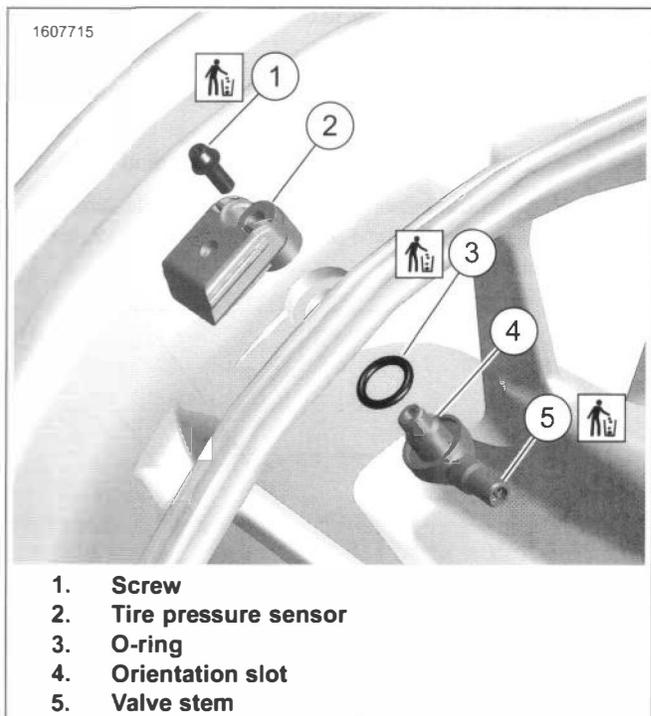

Figure 3-15. Tire Fill Valve/TPMS
1. See Figure 3-15. Remove sensor.
- a. Remove and discard screw (1).
- b. Remove and discard valve stem (5) and o-ring (3).
- c. Remove tire pressure sensor (2) from wheel.
- See Figure 3-15. **New** screw (1) has pre-applied threadlocker.
- Orientation slot (4) engages orientation rail inside tire pressure sensor.
- a. Install tire pressure sensor (2).
- b. Install **new** O-ring (3) on **new** valve stem (5).
- d. Install **new** screw (1).